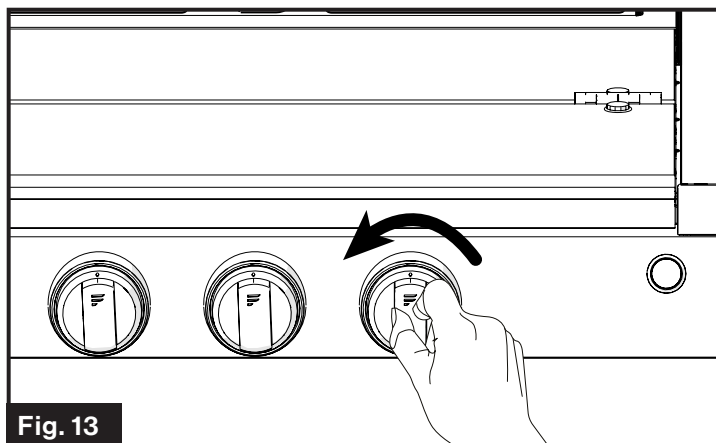

Fig. 13
1. Turn the appropriate burner control knob counterclockwise to the 🔥 position. (Fig. 13)